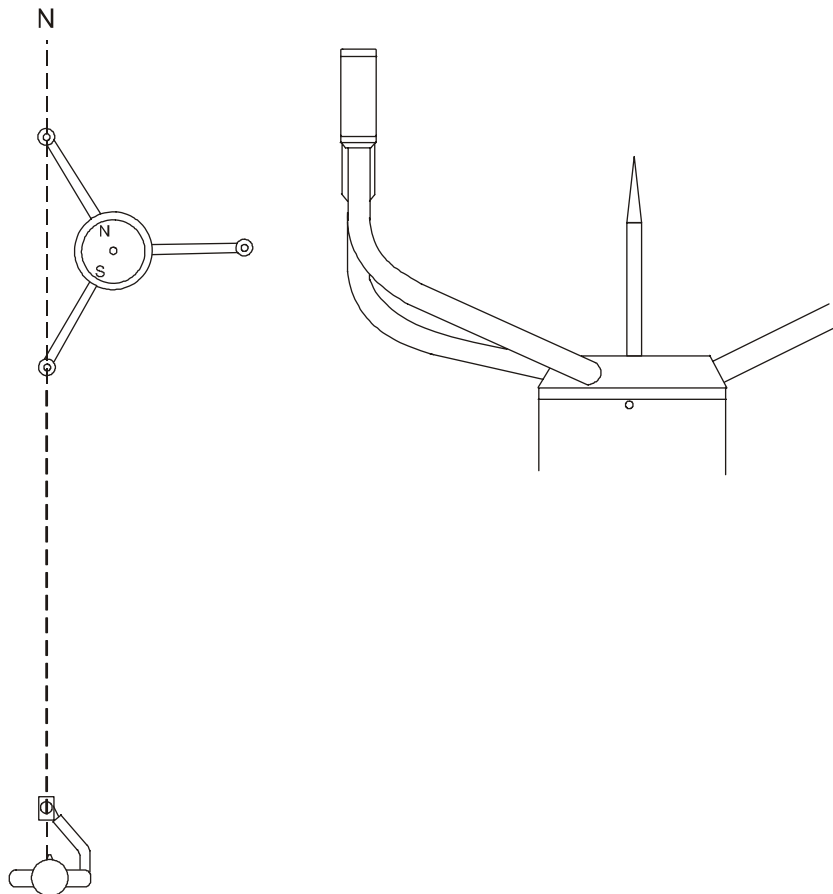

Figure 13 **Correctly Aligned WS425 F/G Sensor**
4. Raise the tower to the vertical position. Figure 13 on page 34 shows the correct alignment.